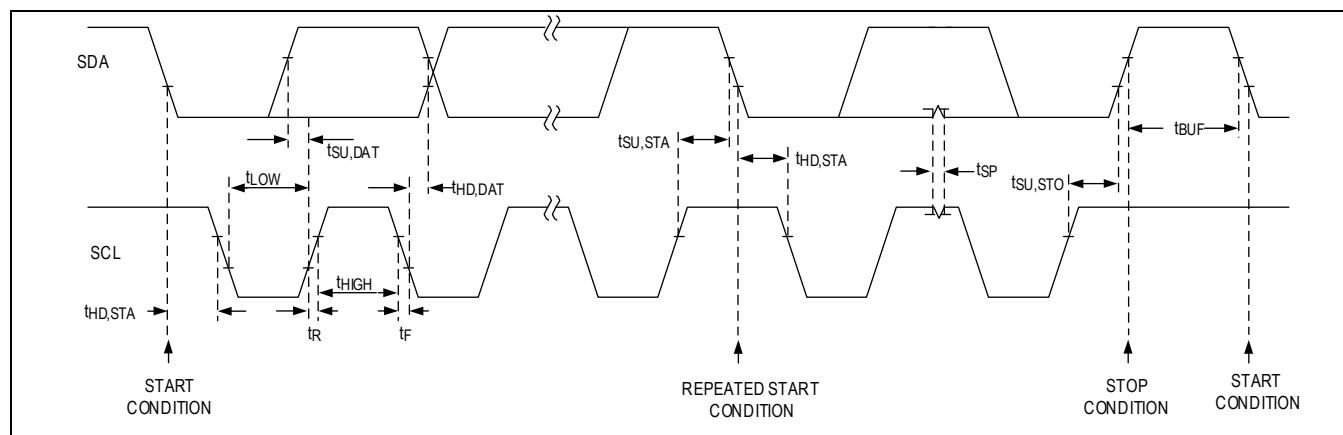

Figure 31. I2C Interface Timing Diagram
The IC features an I2C/SMBus™-compatible, 2-wire serial interface consisting of a serial data line (SDA) and a serial clock line (SCL). SDA and SCL facilitate communication between the IC and the I2C manager at clock rates up to 1MHz. Figure 31 shows the 2-wire interface timing diagram. The manager generates SCL and initiates data transfer on the bus. The I2C manager writes data to the IC by transmitting the proper peripheral address followed by two register address bytes (the most significant byte first) and then the data word. Each transmit sequence is framed by a START (S) or REPEATED START (Sr) condition and a STOP (P) condition. Each word transmitted to the IC is 8 bits long and is followed by an acknowledge clock pulse. A controller reading data from the IC transmits the proper peripheral address followed by a series of nine SCL pulses. The IC transmits data on SDA in sync with the controller-generated SCL pulses. The controller acknowledges receipt of each byte of data. Each read sequence is framed by a START (S) or REPEATED START (Sr) condition, a not-acknowledge, and a STOP (P) condition. SDA operates as both an input and an open-drain output. A pull-up resistor, typically greater than 500Ω, is required on SDA. SCL operates only as an input. A pull-up resistor, typically greater than 500Ω, is required on SCL if there are multiple controllers on the bus, or if the single controller has an open-drain SCL output. Series resistors in line with SDA and SCL are optional. Series resistors protect the digital inputs of the IC from high voltage spikes on the bus lines and minimize crosstalk and undershooting of the bus signals.